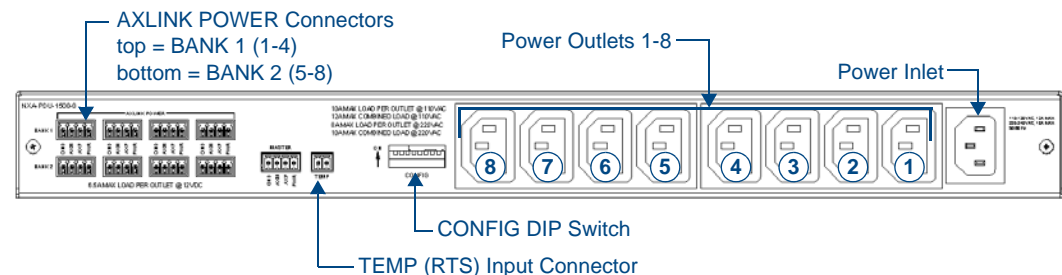

FIG. 7 NXA-PDU-1508-8 - Rear Panel Components
The rear panel components of the NXA-PDU-1508-8 are described below (FIG. 7):
- BANK 1 (top) includes AxLink connectors 1-4, numbered from right-to-left (see FIG. 7)
- BANK 2 (bottom) contains AxLink connectors 5-8, numbered from right-to-left (see FIG. 7)
The 3.5mm 4-pin captive-wire AxLink connector labelled “MASTER” provides AxLink connectivity between the PDU and the NetLinx Master (see FIG. 7).
The 3.5mm 2-pin captive-wire connector labelled “TEMP” (see FIG. 7) provides the option to connect a Remote Temperature Sensor (RTS). The NXA-PDU-1508-8 comes with one ENV-VST-TSO Temperature Sensor (FG2050-22).
The eight 110-220VAC 50/60Hz, IEC C-13, 15A AC Power Outlet Connectors provide AC power to connected devices (see FIG. 7).